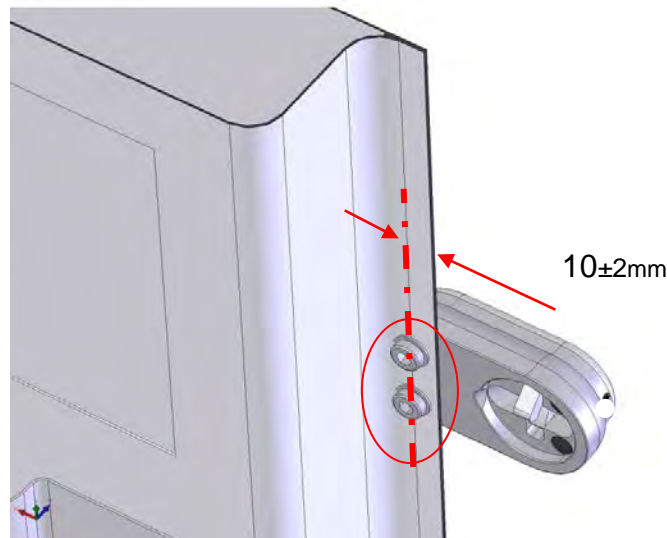

Fig.5
- **The position of the first two 9mm (23/64ths) holes is about 10mm (25/64ths) \pm 2mm (5/64ths) from the vertical edge of the door that opens** (see fig.5). It is a very durable surface area of the door. The stated tolerance is necessary to allow the placement of the M8 cylindrical bolts head within the edge and never being over it.
The initial mounting of the lock housing involves the holes on the extreme edge of the door using the two M8 button head bolts. Before drilling, check that the head of the M8 bolt remains within the edge (see Figure 5).